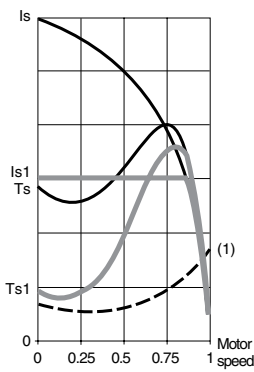

Figure 1
- Figure 1 shows the behavior of the torque in relation to the starting current. Limiting the starting current I_s to a preset value I_{s1} will reduce the starting torque T_{s1} to a value which is almost equal to the ratio of the square of currents I_s and I_{s1} .